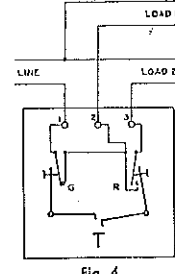

Fig. 4
- (3) Two stage heating in which the process is fired by two sets of heaters or burners to provide a slow rate of heating on initial start to minimize the danger of damage to heated pots, kettles or their contents from too rapid initial heat input. One control point is usually set just above the melting point of the product being melted allowing heat at the lesser rate to be applied. As the temperature rises beyond this point, full heat is supplied. (See fig. 4 on page 3.)